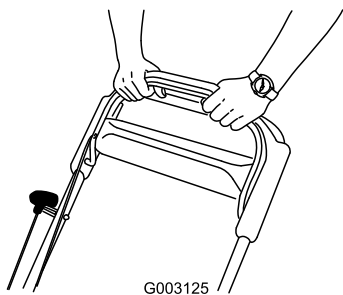

Figure 16
3. Hold the blade-control bar against the handle (Figure 16).